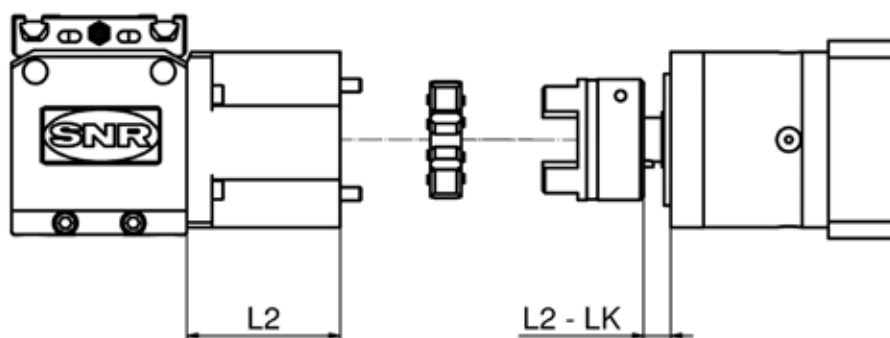

Figure 2.8 Mounting dimension
3. Insert this assembly into the coupling half with elastomer gear rim screwed to the drive head **6**, and tighten them with the screws **7**. Consider the dimensions LK and L2 (Figure 2.8) from Table 6.20, Catalogue Chapter 6.2.3.2.